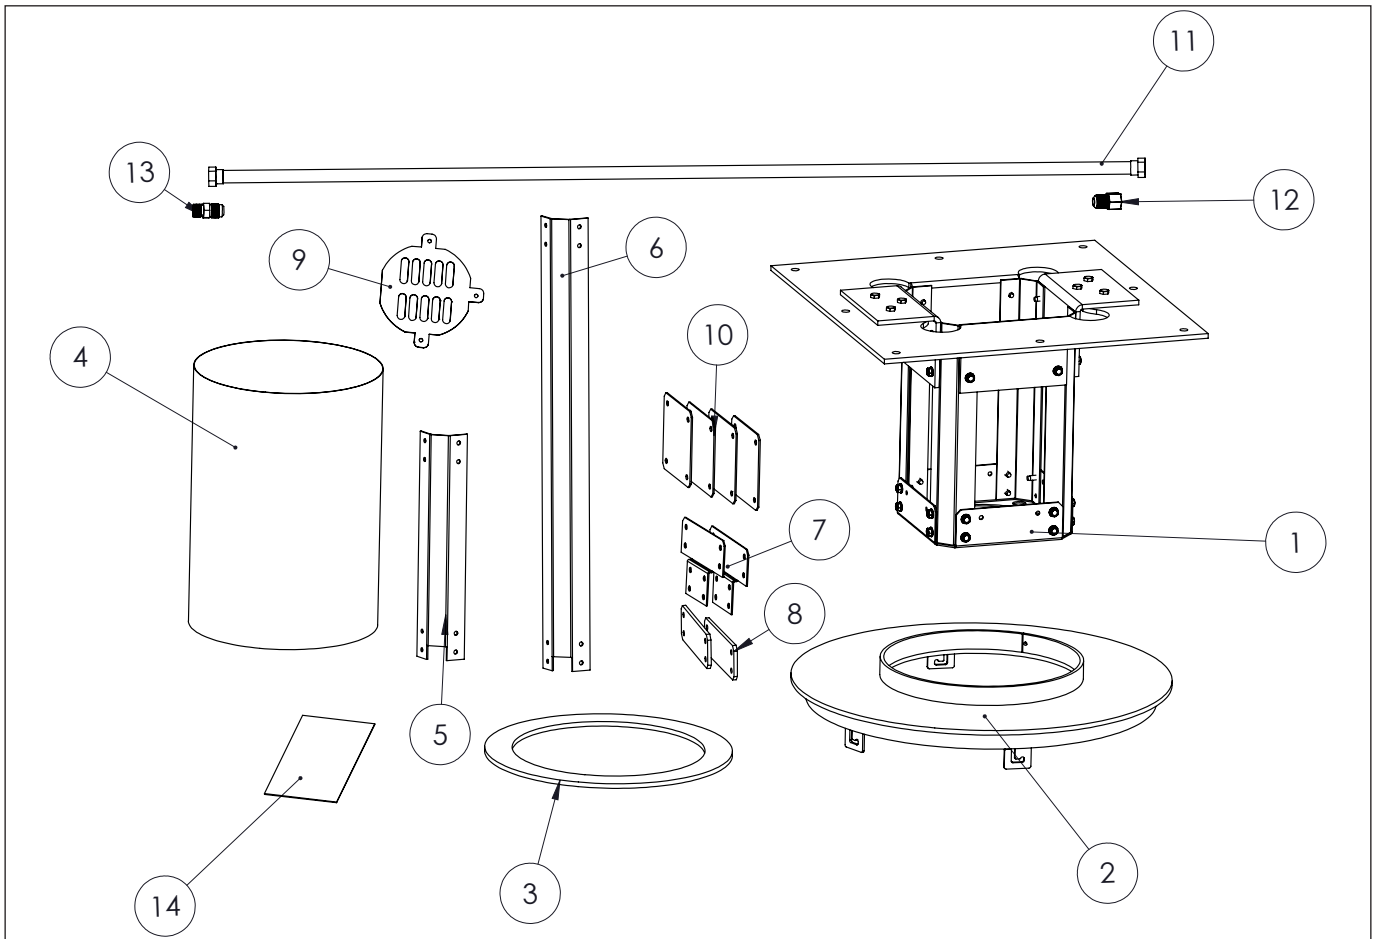

Figure 1: Starter Kit Contents (50-4074 or 4298)
4. Retrieve the single set aside suspension structure section from the previous section. Depending on whether the set aside section is a 1ft or 2ft section, find the corresponding S50-S brace cutout that was included with the starter kit (refer to Figure 1). One of the braces on the remaining suspension structure will need to be replaced with this S50-S brace cutout. Remove the eight (8) 1/4-20 hex head bolts securing the brace and replace with the S50-S brace cutout.
5. Retrieve the two (2) Air Box Joints and the two (2) Air Box Joint Spacers that are included with the starter kit. Attach
1. Place the top collar and Duravent 10" slip section (both included in the starter kit, see Figure 1) over the suspension structure attached to the unit and rest them on top of the S50.